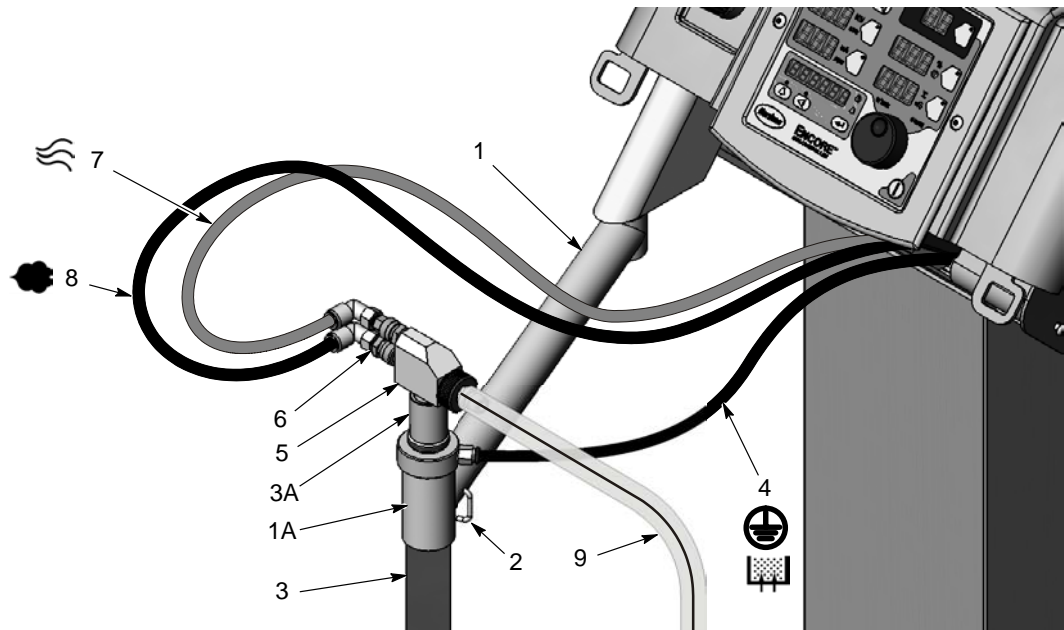

Figure 2-4 Pickup Tube and Pump Installation
1. See Figure 2-4. Unpack the pickup tube (3). Swing the arm (1) out, move the pickup tube catch (2) out of the way, then slide the pickup tube through the tube holder (1A).
2. Install the pump (5) into the pump adapter (3A) with a slight twisting motion.
3. Plug the 8-mm blue atomizing air tubing (7) into the top tube fitting on the pump.
4. Plug the 8-mm black flow-rate air tubing (8) into the bottom tube fitting on the pump.
5. Plug the 6-mm black fluidizing air tubing (4) into the elbow tube fitting on the pickup tube.
6. Connect one end of the powder feed hose (9) to the pump.
**NOTE:** The pump is equipped with quick-connect couplings (6) that allow you to quickly disconnect the air tubing when cleaning or repairing the pump. Pull back on the knurled coupling rings to uncouple them.